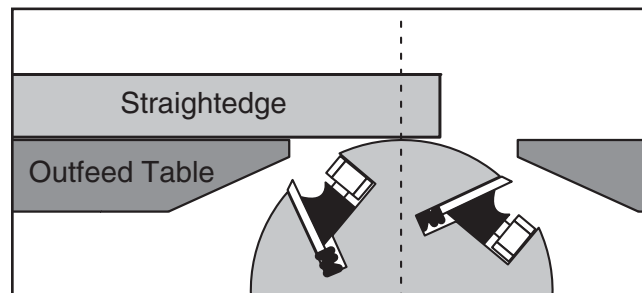

Figure 61. Adjusting outfeed table even with cutterhead body (knife-style cutterhead shown).
4. Rotate the motor pulley so that you can access the cutterhead body with the straightedge between the knives/inserts, as shown in **Figure 61**.